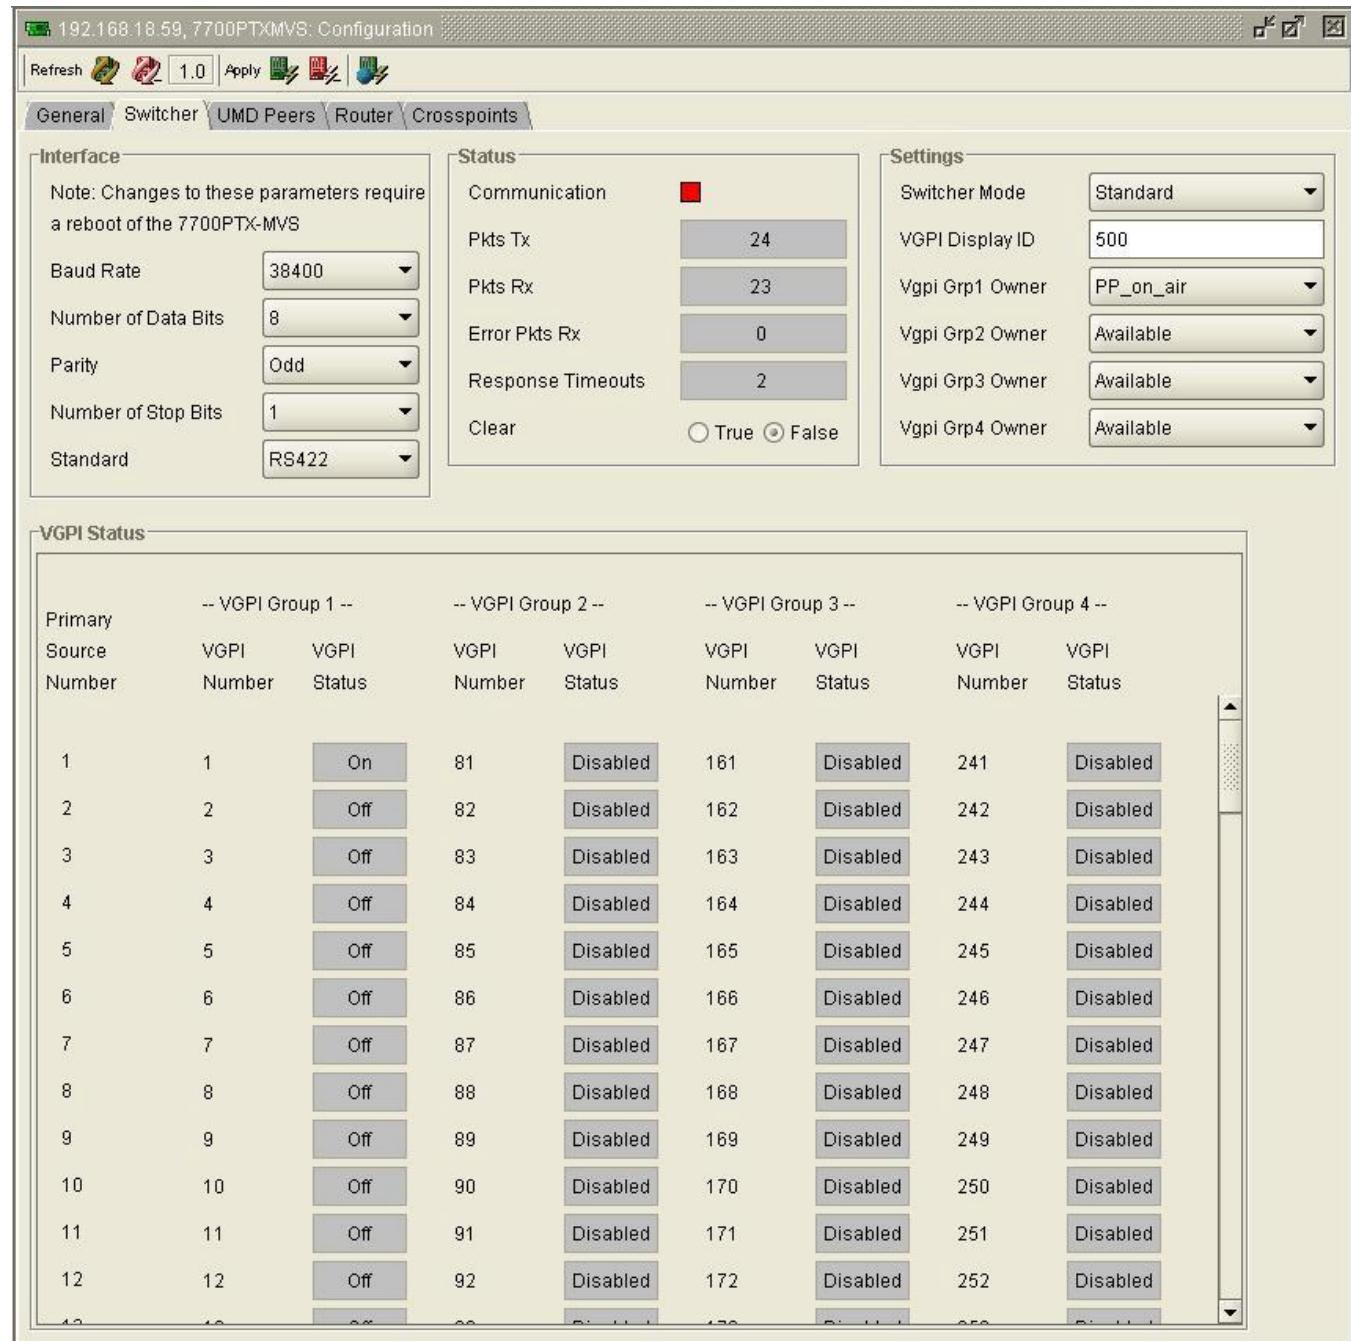

Figure 2-9: Switcher Parameters
7. If desired, the tallies of the switcher can be monitored. The switcher will indicate which of its primary sources are contributing to the switcher's outputs. Tally information is conveyed as VGPIs to the MVP's output card. A VGPI is associated with each of the switcher's 80 primary sources. The 7700PTX-MVP supports up to 4 VGPI groups. Each VGPI group consists of 80 VGPI's – one for each primary source of the switcher. A VGPI group can be assigned an owner. An owner corresponds to one of the switcher's outputs. Thus, if a VGPI is on the switcher's primary source it is contributing to the monitored output. If a VGPI is off the primary source it is not contributing to the monitored output. For instance, suppose we wish to monitor the switcher's program/preview output. As shown in Figure 2-9, *PP_on_air* is selected as the owner of VGPI group 1. Thus VGPIs 1 – 80 will be associated with the program/preview output. Table 2-2 shows the primary source/VGPI relationship.